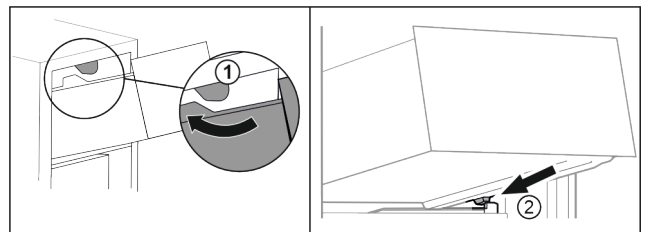

Fig. 132
- Guide drawer around the upper stoppers. Fig. 132 (1)
- Place drawer at an angle behind the lower stoppers onto moulded rib. Fig. 132 (2)